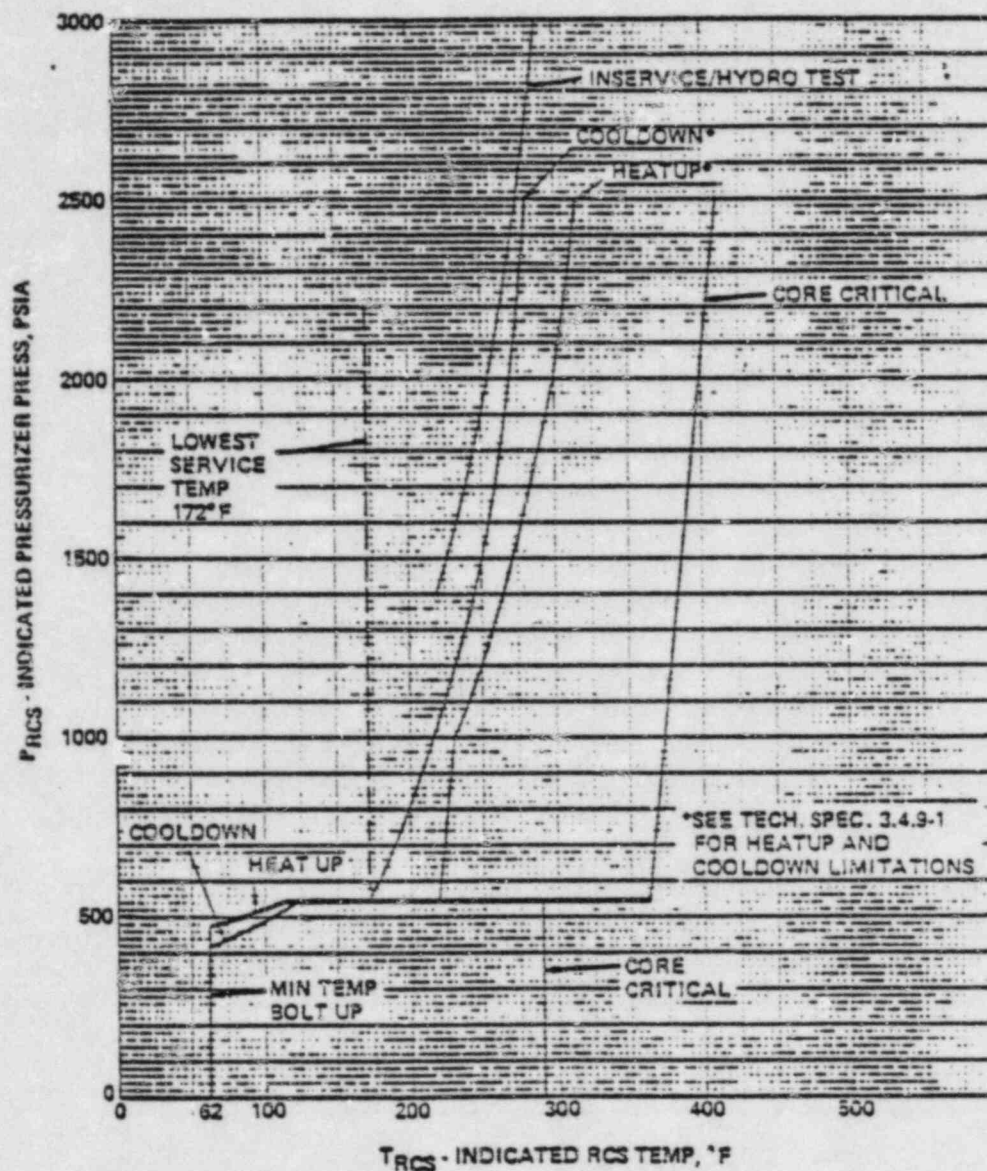

FIGURE 3.4.3
6. Establish and maintain an RCS cooldown rate of 50°F/hr (See Figure 2). The highest RCS cold leg temperature shall be plotted every 30 minutes on a copy of Figure 4. The RCS temperature and pressure shall be determined to be within the limits of Technical Specification Fig. 3.4-3 at least once per 30 minutes during cooldown.